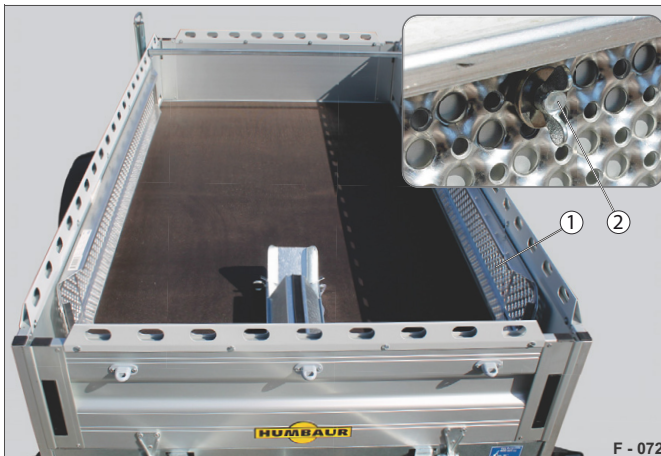

Fig. 75 Example: HA Allrounder, track ramps secured
- Position the track ramps (Fig. 75 /1) against the inside of the drop sides.
- Secure the loading ramps with the wing nuts (Fig. 75 /2).